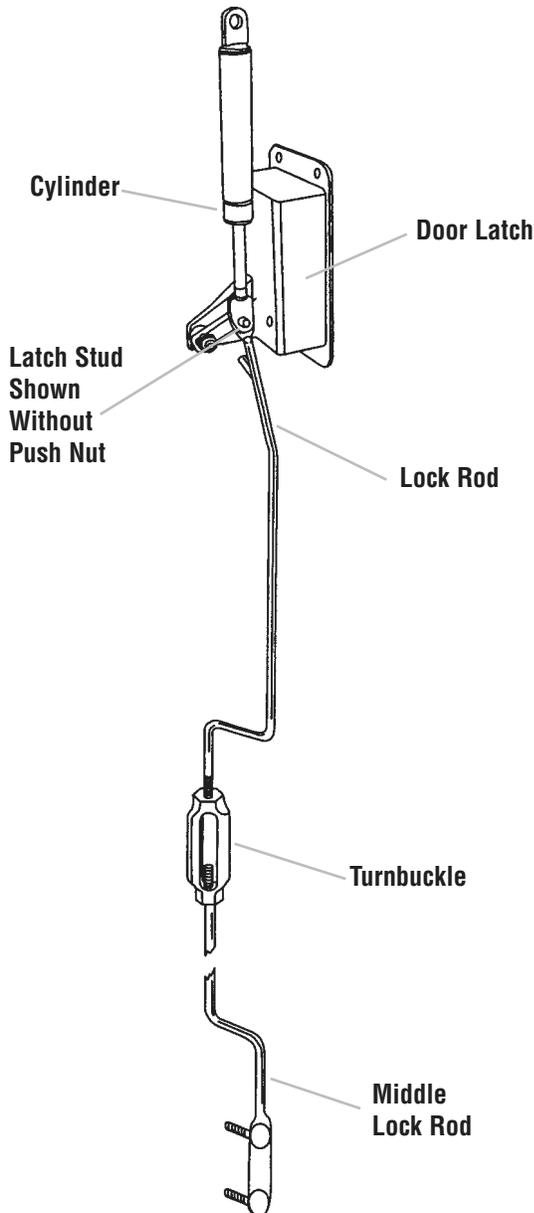

Figure 22
- Screw the turnbuckle onto the middle lock rod (note left-hand threads), and then screw the top lock rod into the turnbuckle (Figure 22).
STEP 18 - LOCK ASSEMBLY (Figure 22)